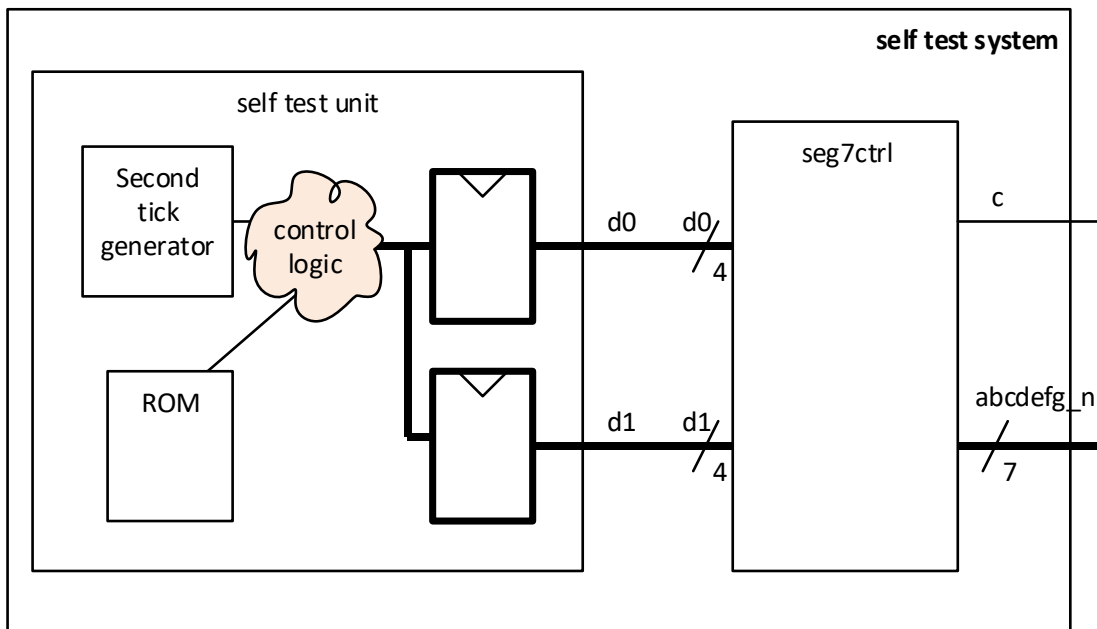

Figure 2: The self-test unit.
- To do this you shall wrap your *self test unit* and *seg7ctrl* modules in a new module named *self test system*. This module does not have any inputs (only a reset and clock), as all the data is handled made by the *self test unit* itself, but it does have two outputs. One `std_logic` for C and one `std_logic_vector[6:0]` for abcdefg. See Figure 2 above.